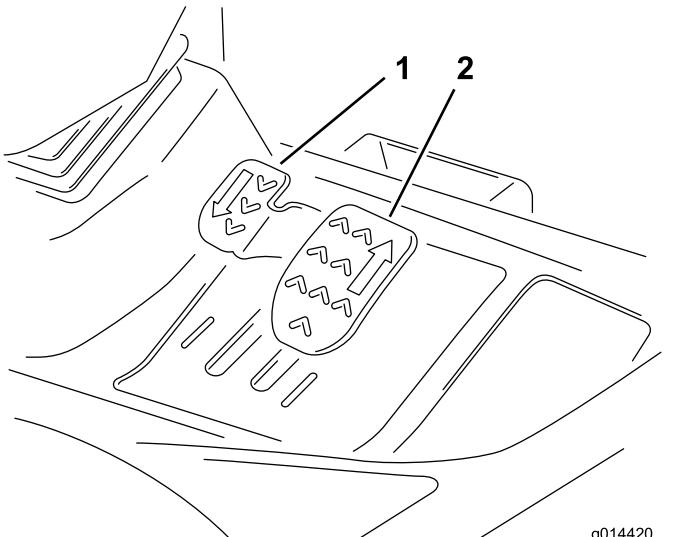

Figure 19
**Forward travel:** Press the forward traction pedal to drive the machine forward and increase ground speed. Release the pedal to reduce ground speed (Figure 19).
**Reverse travel:** Press the reverse traction pedal to drive the machine backward and increase ground speed. Release the pedal to reduce ground speed (Figure 19).